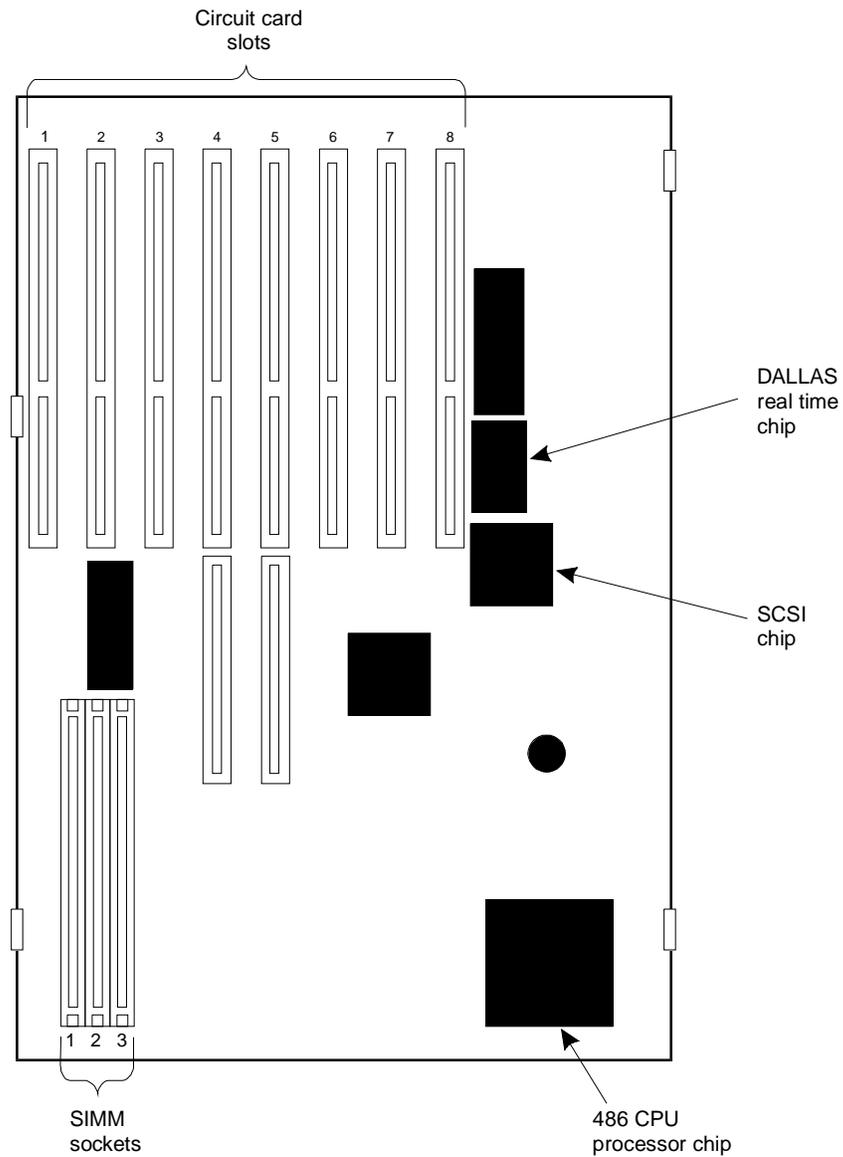

Figure C-1. SIMM Socket Location on System Board
This SIMM is located in the left front corner of the system board, parallel but opposite to the peripheral bay. See Figure C-1.
6. Locate the 16 MB or 4 MB SIMM. See Figure C-1.
8. Locate the SIMM in the left, front area of the unit. See Figure C-1.